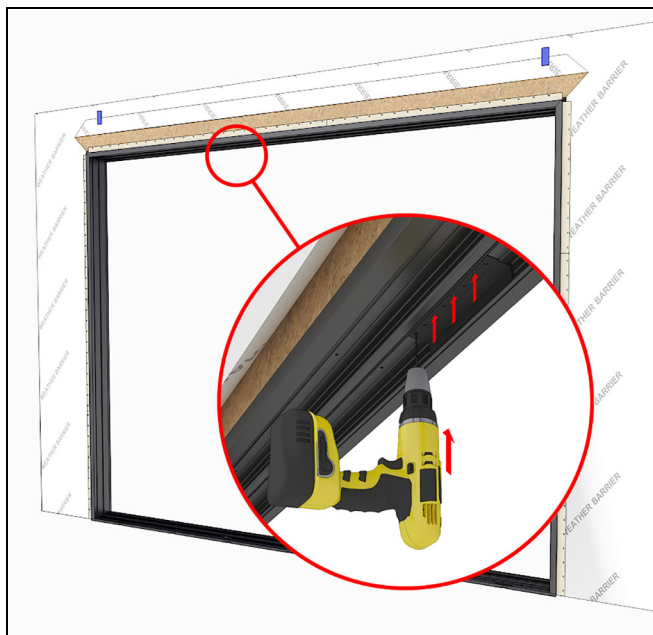

Figure 93
2. Pre-drill a 3/16" hole through the head jamb using the bracket as a template. Pre-drill at each outside hole of the bracket, and at least once more in the middle of the bracket. See Figure 93.